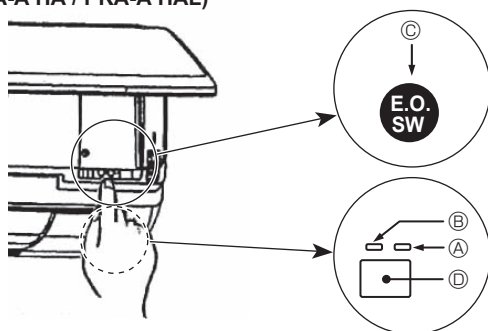

Fig. 9-2
- To stop operation, press the  button (D) or the  button (C) for more than 2 seconds.
[Fig. 9-2] (A) DEFROST/STAND BY lamp (Orange)